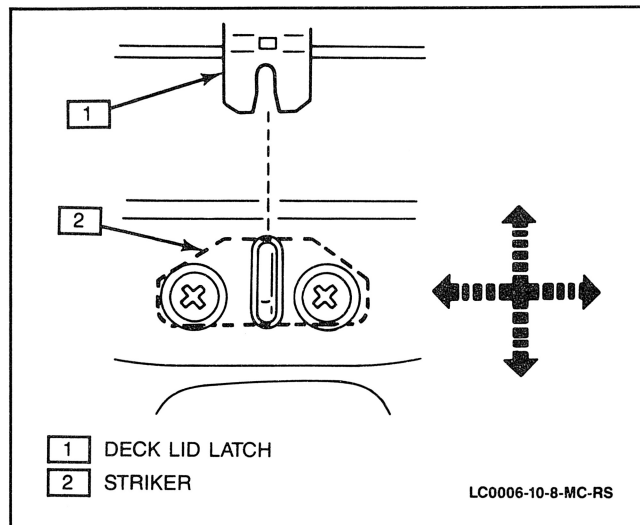

Figure 6 Deck Lid Latch and Striker Adjustment
- Striker by loosening two screws and moving striker left, right, fore, and aft for proper alignment (Figure 6).